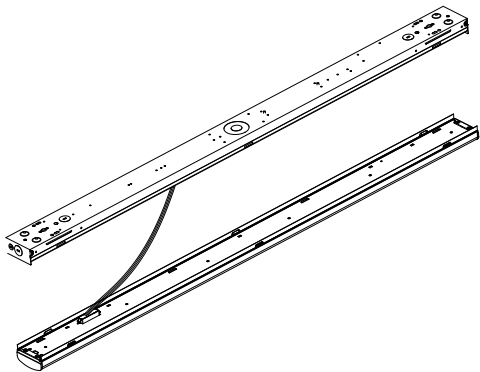

Figure 3
Step 3: Install the approved sensor and make sure it is securely fit. (Figure 3)